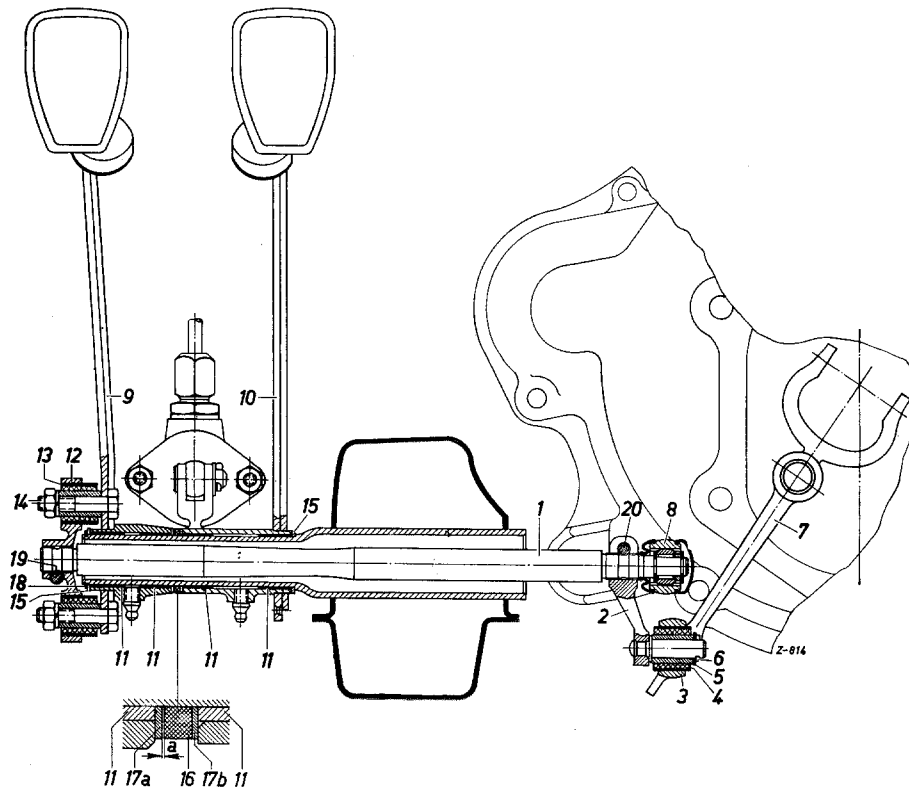

Fig. 29-10/1
- 3 a. In the case of the 4th version with swivel support unscrew the two hexagon nuts (14) on the flange (12) of the clutch pedal (9) and remove together with the lock washers (see Fig. 29-10/1).
4. Mark the relative position of the flange (12) and the pedal shaft (1). Unscrew the clamping screw (19) on the flange and press the flange off the clutch pedal shaft.
5. Remove the snap ring (18) and washer (15) from the mounting tube and pull off the clutch pedal.
6. Remove the washers (17) and (16) from the mounting tube (Fig. 29-10/1).
10. Install the brake pedal on the mounting tube; do not forget the rear washer (15) (see Fig. 29-10/1).
12. On cars not provided with a stay rod slide a spacer washer (17b), the Vulkollan washer (16) and a shim (17a) together with the clutch pedal onto the mounting tube instead of the washer and the spring washer. Install the washer (15) and install the snap ring (18) in the groove of the mounting tube (see Fig. 29-10/1).